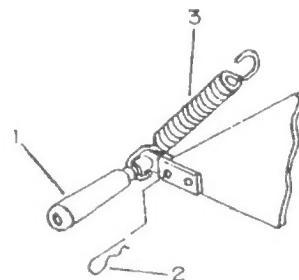
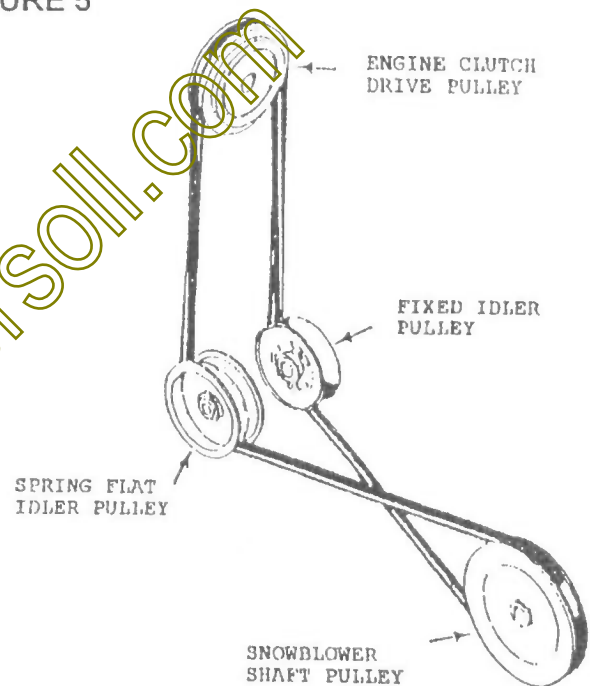

FIGURE 4
FIGURE 6
- h) Attach a spring (fig. 4, item 3) to tightener arm (item 1) and secure with 4mm hair pin.
- i) Install the handle grip 1/2 X 3" (fig. 4, item 1) on the spring tightener.
- c) Loosen the belt spring tightener by removing the hair pin (fig. 4, item 2) and move the tightener arm down and forward (item 1).
- d) Route the V-belt under the idler pulleys and on the engine clutch drive pulley as shown in figure 6. Pull down and back the tightener arm (fig. 4, item 1) to put tension on the belt. Secure with 4mm hair pin (item 2).
IMPORTANT: Be sure the belt is not twisted more than 90° and the V of the belt is on the V of the pulley. The back of the belt is on the flat pulley, see figure 6.
- c) Loosen the belt spring tightener by removing the hair pin (fig. 4, item 2) and move the tightener arm (item 1) down and forward.
- d) Route the V-belt under the idler pulleys and on the engine clutch drive pulley as shown in figure 9. Pull down and back the tightener arm to put tension on the belt. Secure with 4mm hair pin (fig 4 item 2).